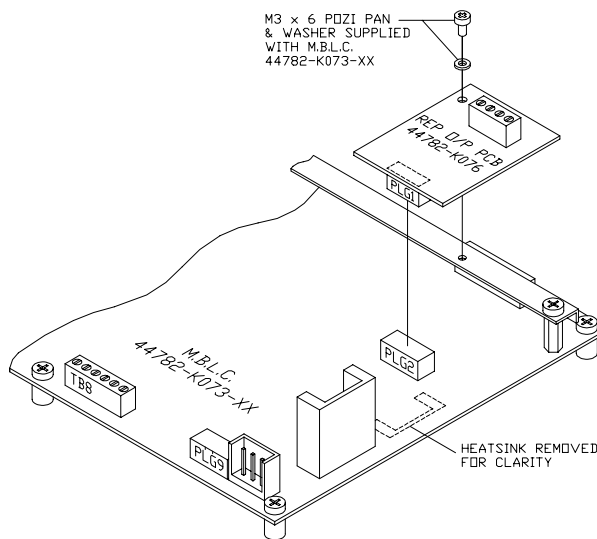

Figure 35: Repeater Card Installation
2. Install the 44782-K076 card into the plug located on the motherboard card as shown in Figure 35.